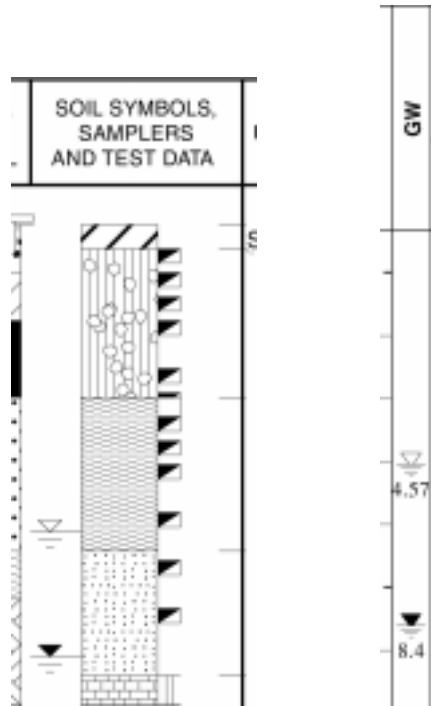

Figure 4.63 -- Groundwater Symbols
- To produce a report where the groundwater symbols are attached to the left of a graphic log column (like the example shown in Figure 4.63), place the symbols in a column of their own immediately to the left of the graphic log column. Make the **Weight of Line at Column Right** for the symbol's column equal to (**no line**). When asked (see below), use one of the following symbols from the MISC library: "LWATER" or "LWATERNF". Set the symbol's **Horizontal justification** to "Right".